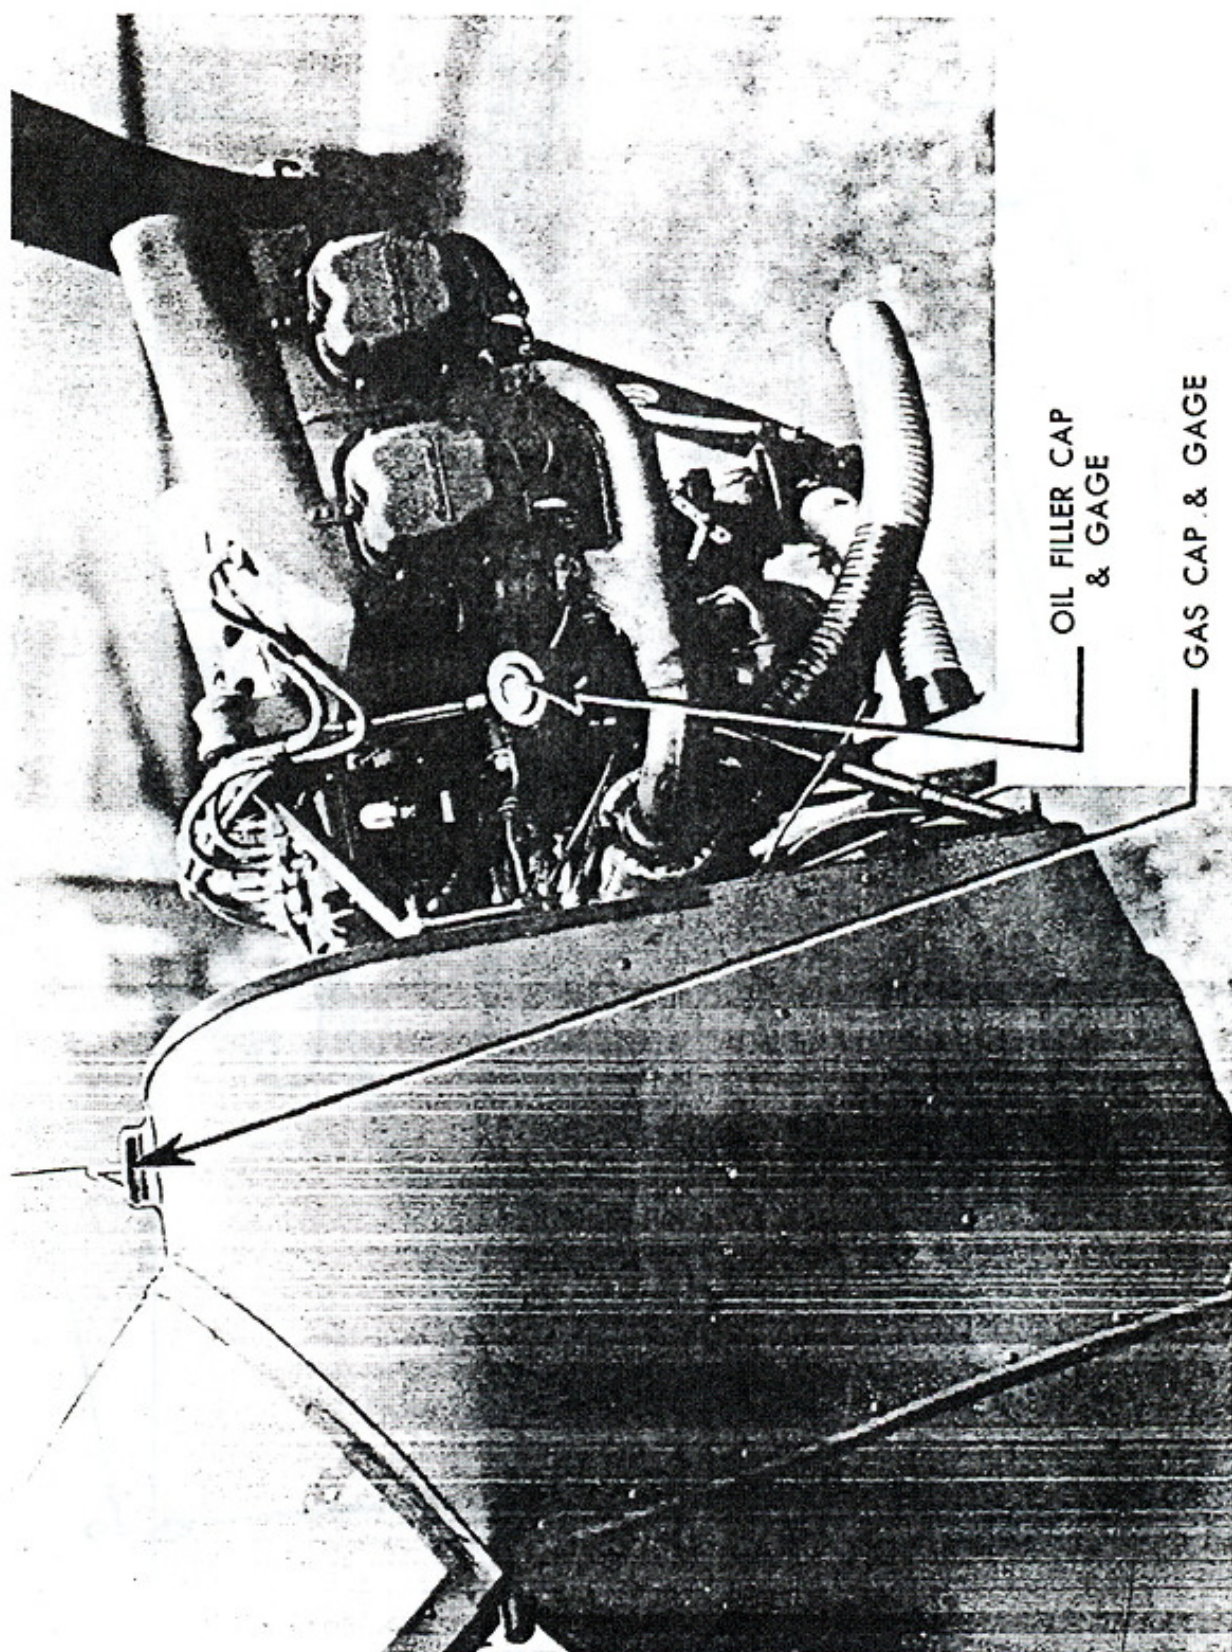

Figure 13—Engine
c. ENGINE. (See figure 13.)—Engine cowl is detachable for inspection of engine and parts. Periodic checks of engine and parts are discussed in section VIII.
(1) Fuel tank capacity is 12 U. S. (10 Imperial) gallons.
(2) Fuel should be Specification No. AN-F-23, grade 73, or U. S. Army Specification No. 2-103, grade 80.
(3) Remove fuel cap and gage assembly (figure 13); insert hose and fill tank.
(4) Fuel consumption at cruising speed is 4.25 U. S. (3.54 Imperial) gallons per hour.
(4) Replenish oil as needed. Consumption of oil is .25 U. S. pint or .026 Imperial gallon per operating hour.
(5) Oil reservoir filler cap with attached gage rod is located on the right side of the engine. (See figure 13.) Filler cap is accessible by removing cowl pins on right side and partially lifting top section.